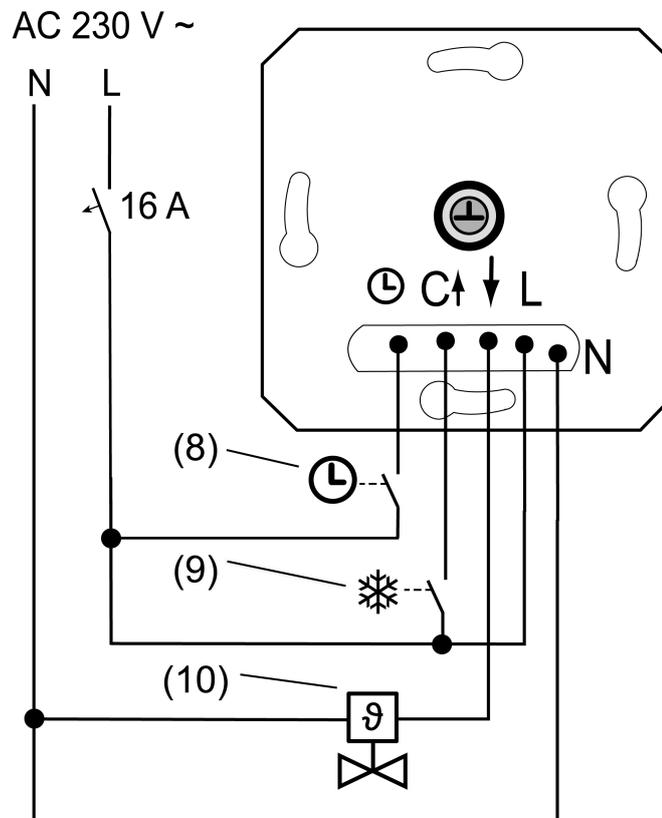
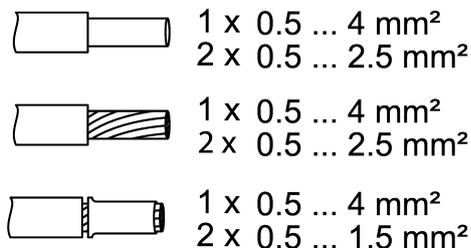

Figure 2: Connection example of the insert
Figure 3: Clampable conductor cross-section
- Connect electrothermal valve drive (10) to insert (1) according to connection diagram (see figure 2). Observe the conductor cross-sections (see figure 3).
- Optionally, connect the lowering mode input \ominus via a switching contact of a central clock (8).